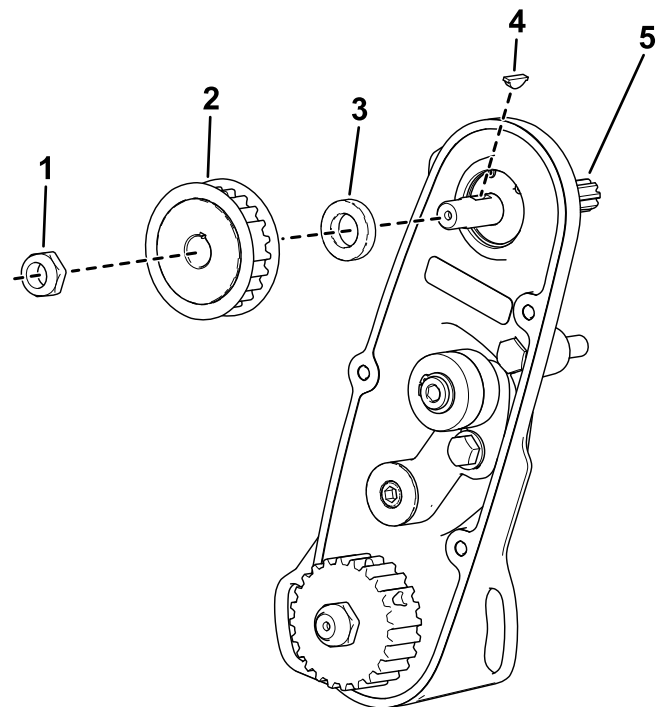

Figure 5
- F. Remove the nut, pulley, spacer, and key (Figure 5).
- G. Remove the existing reel driveshaft (Figure 5).